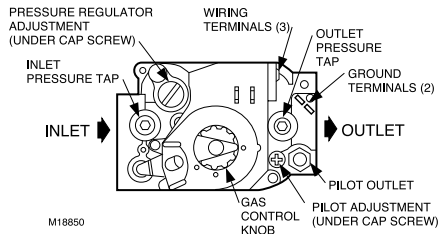

Fig. 4. Top view of gas control.
6. Connect pipe to gas control inlet and outlet. Use wrench on the square ends of the gas control. If a flange is used, place wrench on flange rather than on gas control. Refer to Fig. 4 and 5.
3. Unscrew brass compression fitting from the pilot outlet (Fig. 4). Slip the fitting over the tubing and slide out of the way.
2. With main burner operating, check gas control flow rate using the meter clocking method or pressure using a manometer connected to the outlet pressure tap on the gas control. Refer to Fig. 4.